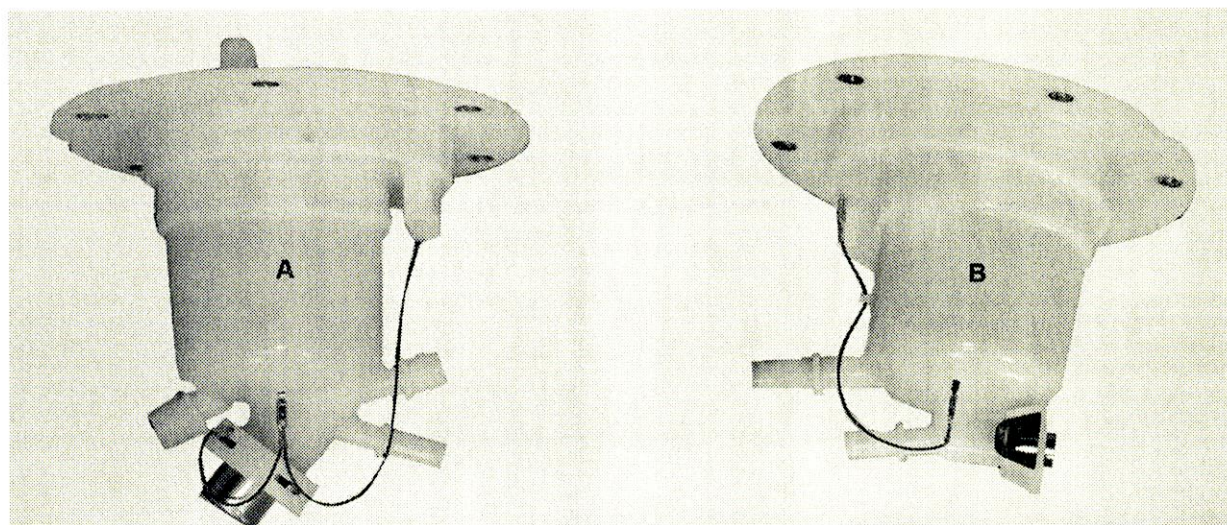

Figure 4
- Fuel filter (B, Figure 4) for models: 216.374/394, 221.173/194/174 is equipped with 2 fuel line fittings.